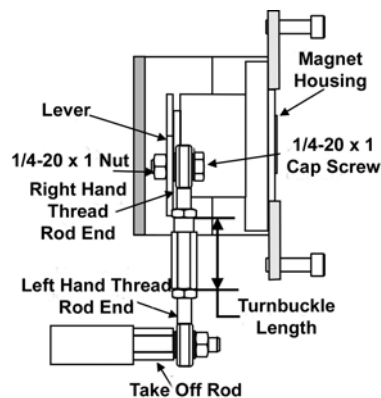

Figure 47 Reciprocating Linkage
4. Thread the take-off rod to the actuator stem connector. Refer to Figure 47. Ensure that the travel pointer located on the coupling is correctly positioned.
5. Attach the right hand threaded rod end to the SVI II ESD lever using a 1/4 - 20 x 1" cap screw and nut as shown. The lever hole position to be used depends upon the specific valve stroke. Refer to Figure 47 on page 69 and the Reciprocating Valve Linkage Selection, Table 6 on page 70.
10. Thread the turnbuckle onto the left hand threaded rod end. Refer to Figure 47.
11. Adjust the turnbuckle until the hole in the SVI II ESD lever is aligned with the indicating hole in the bracket. Tighten both turnbuckle lock nuts. Refer to Figure 47.